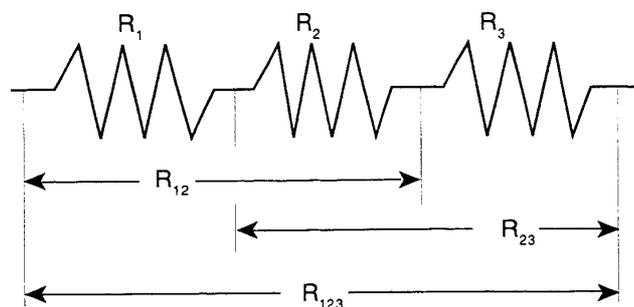

Figure 14.11: Resistors in Series Circuit
5. Now connect the three resistors into the *series circuit* (Figure 14.11), using the spring clips on the Circuits Experiment Board. Measure the resistances of the combinations as indicated on the figure by connecting the leads of the Multimeter between the points at the ends of the arrows. Record your values in Table 14.2. Compare these values with the calculated values.